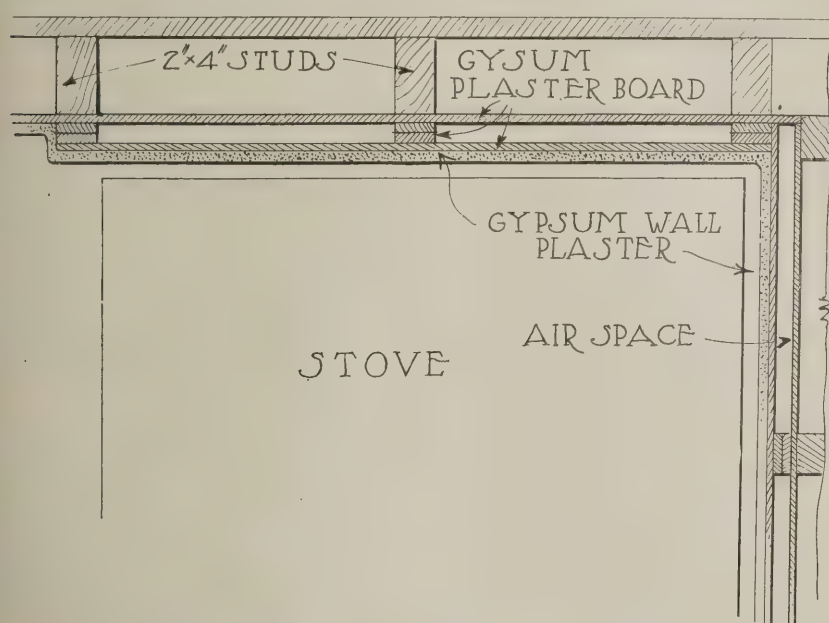
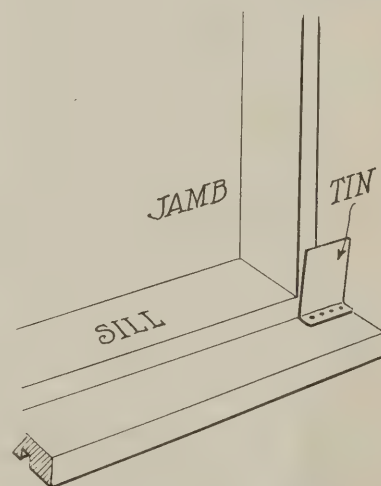

Fig. 1—Plaster board fireproof for kitchen walls
Fig. 2—Tin flashing for leaky window sills
tion of several hundred houses, and in connection with them designed and built fireproofing in the kitchens as shown in the accompanying sketch. The kitchen ranges were placed tightly in the corners of the kitchens, see Fig. 1, and it was thought that some sort of fireproofing should be used to protect the walls. The method used consisted of nailing the plaster board to the studs, then nailing strips (two thicknesses) to the studs vertically over the plaster board, and then applying another thickness of plaster board. The surface was finished with wall plaster. This design protects the studs with four thicknesses of the plaster board, and the air spaces are additional protection. I doubt if any more simple, economical or
H. F. K. of South Bend, Ind., adds this to the discussion of "Frame Structure," which appears in our December issue, page 44: "I think neither Fig. 1 nor Fig. 2 is
"Many builders of frame buildings," says A. M. J. of Canby, Minnesota, "have difficulty with leaks around the window sills and stools. I have found the following to be a very effective remedy for such leaks (See Fig. 2): When nailing together the